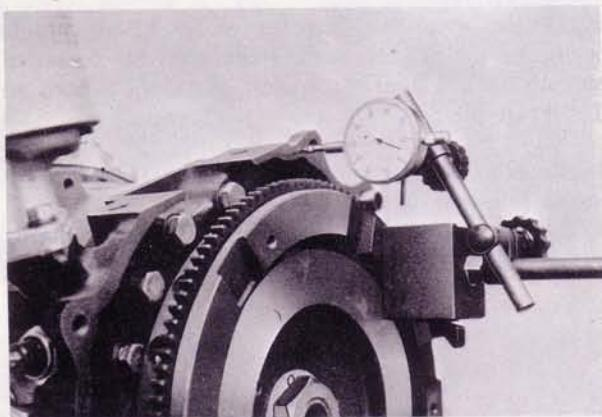

Fig. 1-81 Checking end play
11. Apply a dial indicator onto the flywheel as shown in Fig. 1-81. Move the flywheel fore and aft, and note the reading of the indicator. The standard end play is $0.04 \sim 0.07$ mm (0.0016 ~ 0.0028 in).